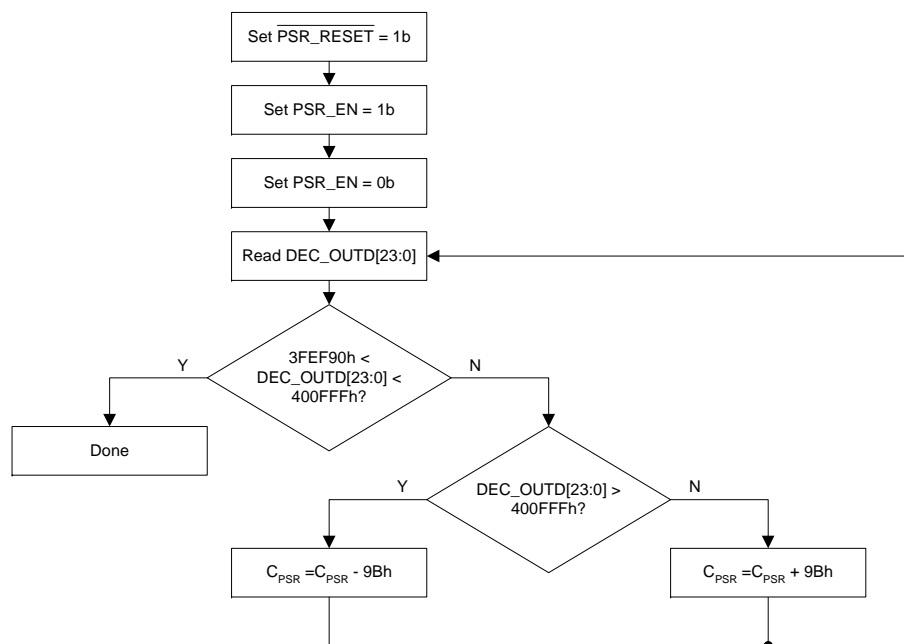

Figure 30. PSR Calibration Sequence
6. See Figure 30 to adjust the DEC_SHIFT[2:0]/DEC_SCALE[18:0] registers.